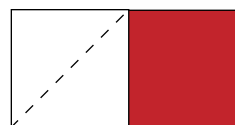
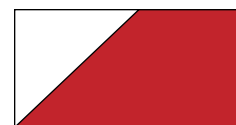

Fig. 4
Fig. 5
2. Place (1) 3 ½" Fabric F square on the left side of (1) 3 ½" x 6 ½" Fabric K strip, right sides together (Fig. 4). Sew across the diagonal of the square from the upper right corner to the lower left corner (Fig. 4). Flip open the triangle formed and press. Trim away the excess fabric from behind the triangle, leaving a ¼" seam allowance (Fig. 5).